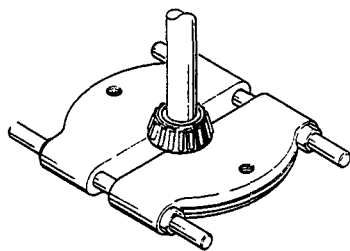

Figure 14
3. If the differential bearing are to be replaced use the extractor shown in Fig. 14 to remove the old bearing and install the new bearing using a press and the installation tool.